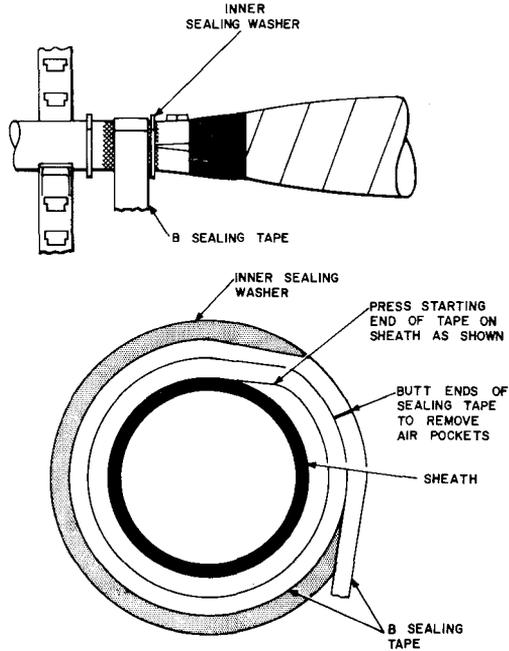

Fig. 21—Sealing Tape Collars
3.18 **Caution:** The B sealing tape and D sealing cords should be kept clean and should not be stretched (Fig. 21). Do not handle tape with damp or oily hands. Do not heat B or D sealing tape or cord directly in the airflow of a heater or blower. This reduces the adhesion to the cable sheath. If heating is required, place in a warm location prior to use. Remove the cables from the splice case. Then, build up collars of B sealing tape on the sheath adjacent to the washers to a diameter equal to or slightly larger than that of the washers. On cables larger than 2.9 inches in diameter, sealing washers are *not* required. In such cases, build up the collar of B sealing tape to 3.4 inches in diameter.